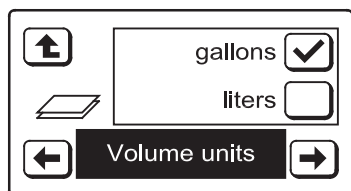

FIG. 72
5. Press the SET UNITS button and the display will change to show the **Volume units** screen (See Figure 72).